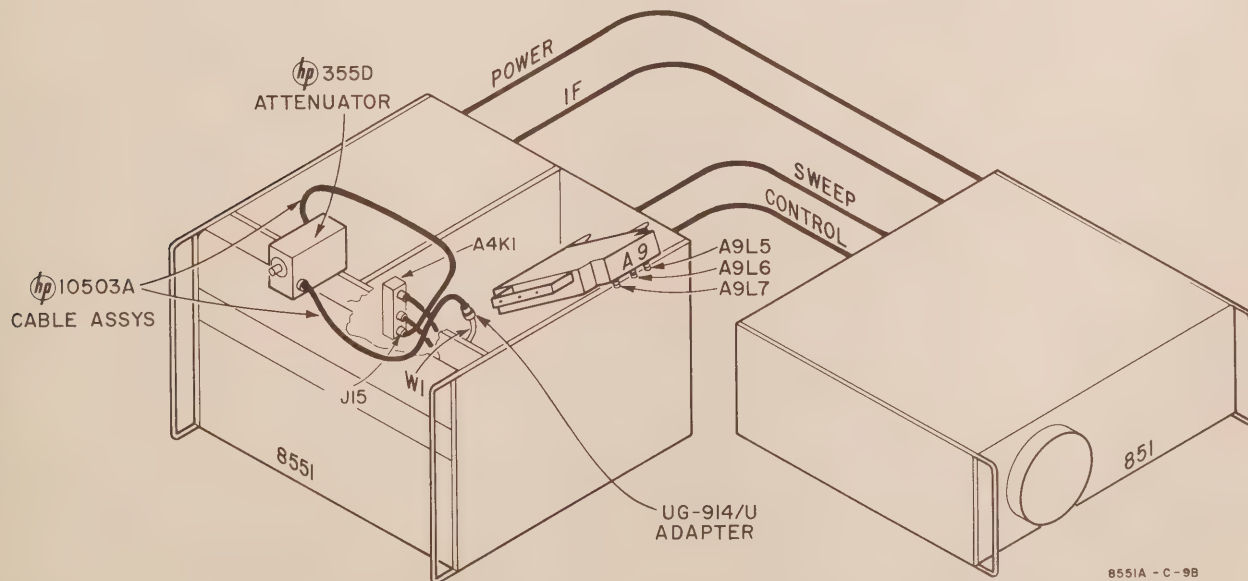

Figure 5-9. Setup for 200 - 20 Mc Mixer Assembly Adjustments
5-79. MEASUREMENT SETUP. Setup is indicated in Figure 5-9. Required adjustments can be made with the converter cover plate either on or off.
- (1) Remove buttons from access holes for 200MC AMPLITUDE TUNING L4 (A9A1L4), and 200MC OUTPUT ADJUST L1 and L2 (A9A1L1 and L2). (Walsco Wand should be used to adjust these inductors.)
- (2) The tuning slugs which protrude from the rear of the converter assembly are located inside the form on which an inductor coil is wound. For simplicity in identifying the slug referred to, part designation for the inductor is used, though actually stray capacitance is adjusted as the tuning slug is turned, not inductance. Tuning slugs are identified in Figure 5-9. Tuning slugs are adjusted with a screwdriver; be careful not to jam tuning slug against bottom of coil form - coil form may break before slug can be loosened.
b. Connect a Model 355D Attenuator ahead of 2GC IF Amplifier Assy A5. A convenient place to make this connection is where Cable W1 connects to J15 on Coaxial Switch A4. This point is called out in Figure 5-9.
a. Use setup shown in Figure 5-9.